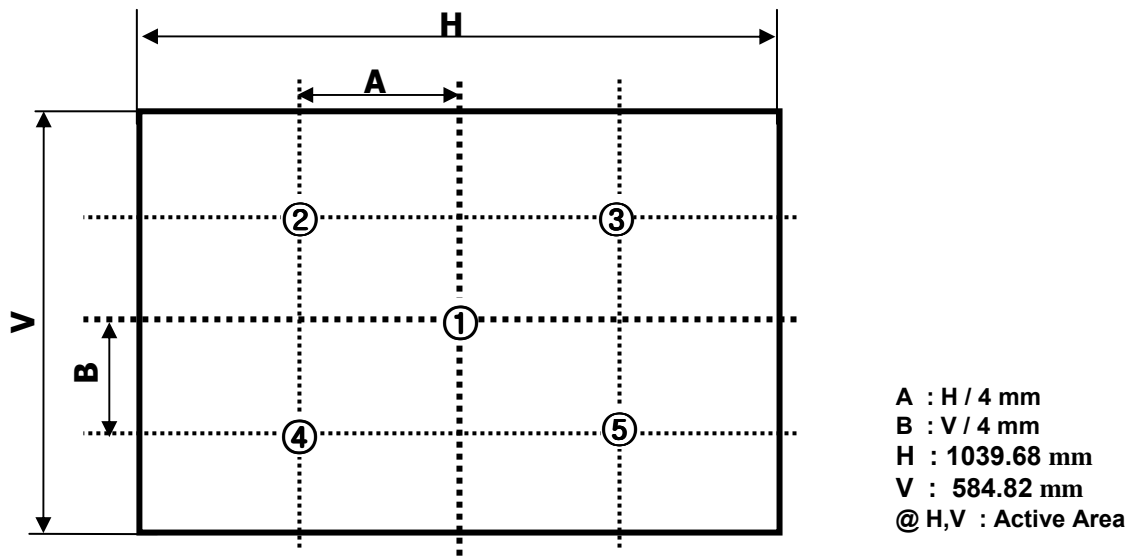

FIG. 2 5 Points for Luminance Measure
Measure Position : 5-point. See FIG. 2 for more information
2. Surface Luminance(LWH) is the luminance value measured at an approximate 50cm distance from the center 1-point of LCD surface as all pixels displaying white. See FIG. 2 for more information.
For more information, see the FIG. 2.